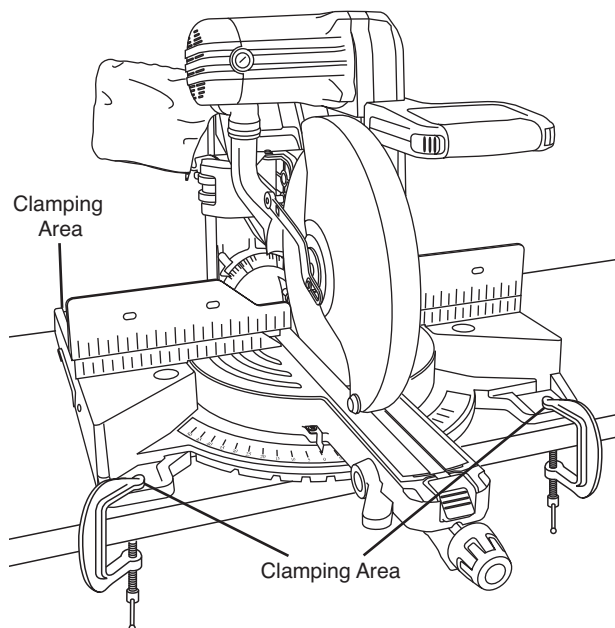

Figure 29. Temporary Mounting Using Clamps
- Place two or more "C" clamps on the clamping areas and secure (see Figure 29). There are clamping areas at all four corners of the saw.